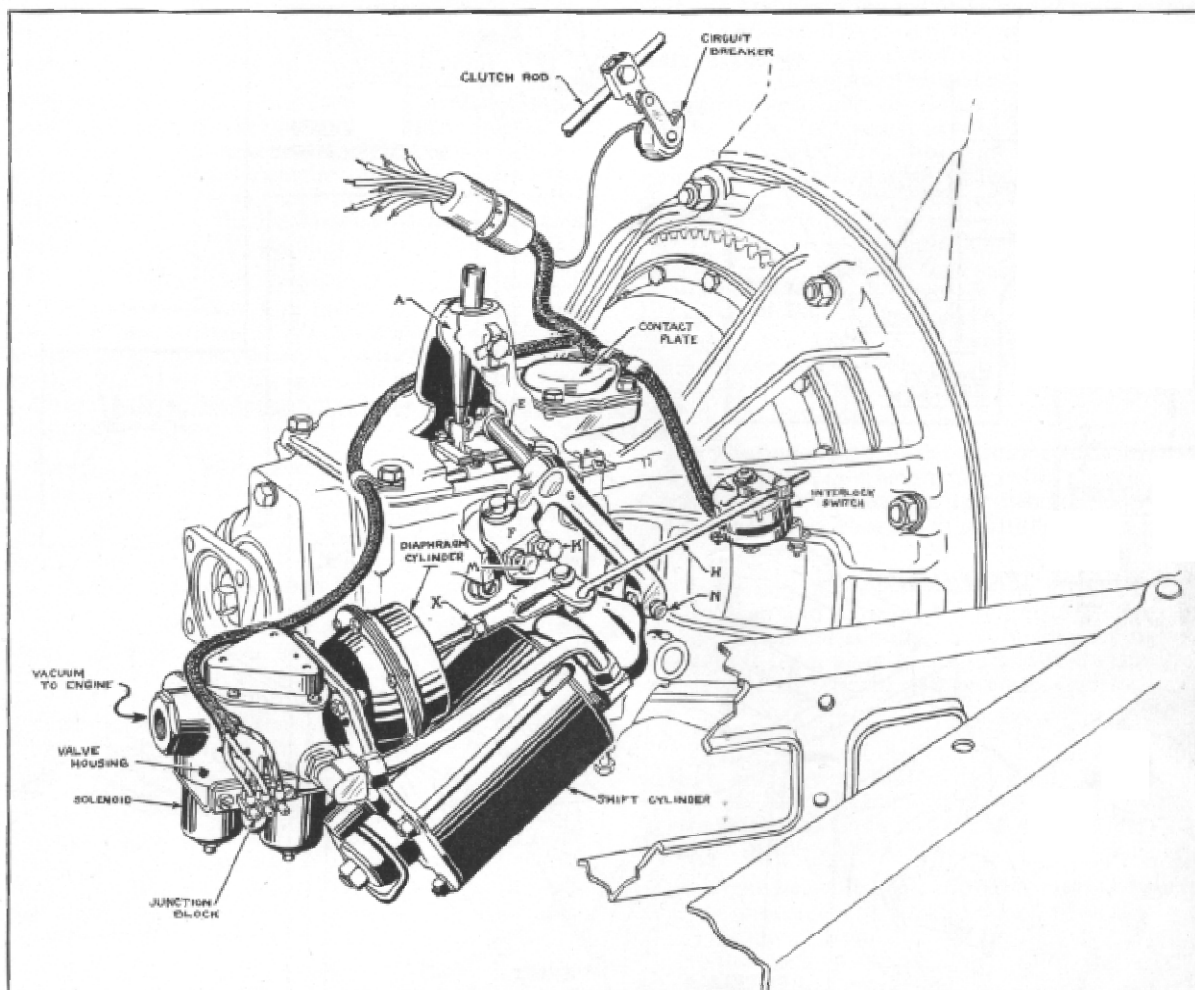

Figure 1
The selector switch, in conjunction with the contact plate and the interlock switch (Fig. 1), controls the circuits to these points.
(A) - Adjustment of Cross Shift Stop Screws (Figure 1, Page 1)
(B) Adjustment of Length of Diaphragm Cylinder Shaft (Figure 1, Page 1)
(D) Adjustment of Power Cylinder Piston Rod (Figure 1, Page 1)